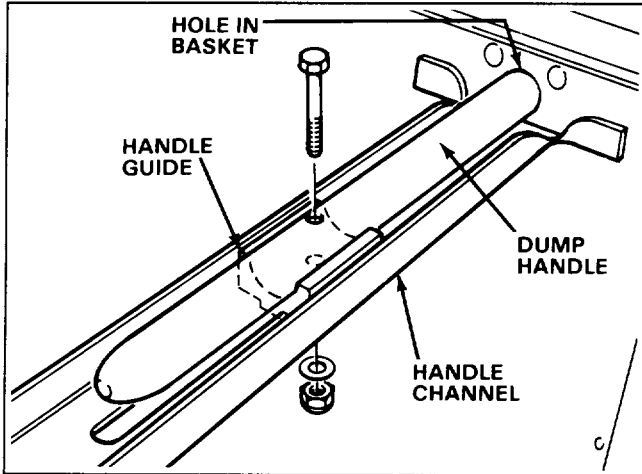

Figure 4
1. Open grass basket and slide dump handle through hole in top of basket and into handle channel (Fig. 4). Make sure handle grip points toward front of grass basket.
2. Lift up on end of dump handle allowing handle guide to be positioned onto handle and into channel (Fig. 4). Align hole in guide with hole in dump handle. Secure handle guide and dump handle to channel with a 1/4-20 x 2" lg. capscrew, flatwasher and locknut. Dump handle and guide must slide freely in handle channel.